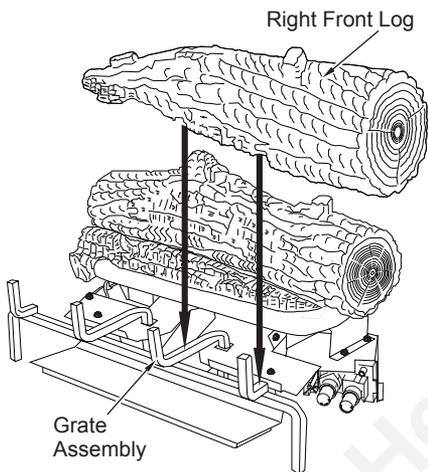

Figure 58 - Installing Right Front Log
3. Place the right front log onto the base and grate assembly as shown in Figure 58. The log has notches in the bottom for the grate.